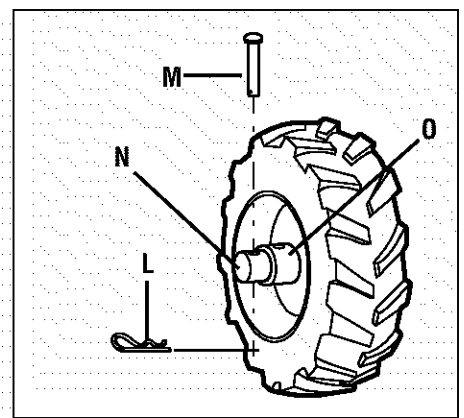

Fig. 2-3: Wheel in FREEWHEEL position
2. Remove the hairpin cotter (L, Fig. 2-3) and wheel drive pin (M) from the wheel hub (O) and wheel shaft (N).
3. Slide the wheel fully inward on the wheel shaft (N, Fig. 2-3). Reinstall the wheel drive pin (M) through the wheel shaft only (not through the wheel hub). Secure the wheel drive pin with the hairpin cotter (L), pushing the hairpin cotter in as far as it will go. The wheel should now spin freely (freewheel) on the wheel shaft. Repeat with the other wheel.